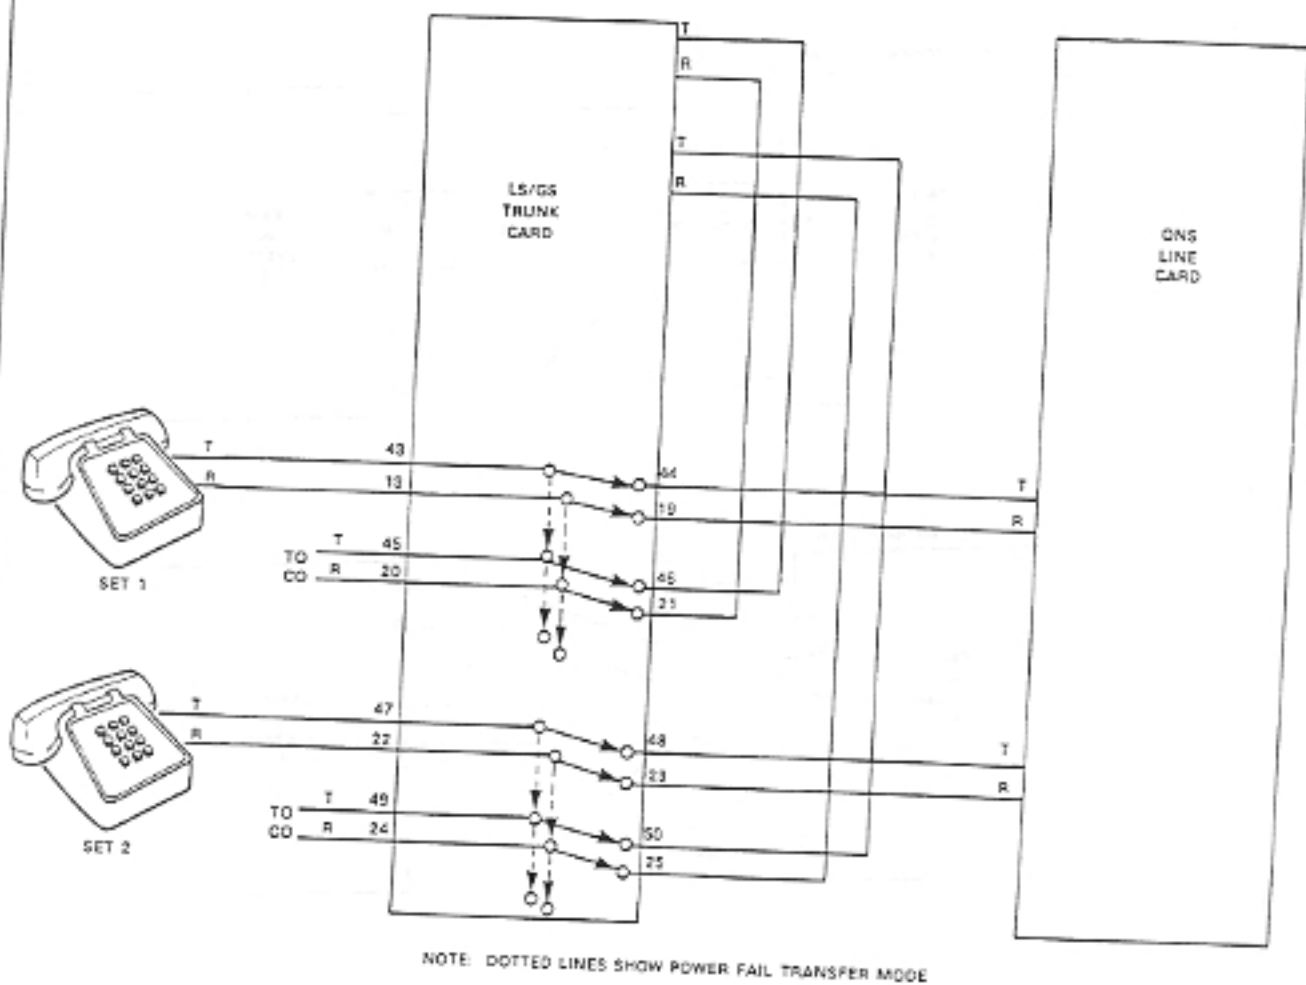

Figure 6-2 Power Fail Transfer Connections
- 6.06 The "cut-through" relays provided can connect Central Office trunks (two trunks per LS/GS Trunk Card) to selected station lines (refer to Figure 6-2, Power Fail Transfer Connections). The sets must be compatible with the ONS Line Card and the trunk. (Note: DTMF sets can be used only if the trunks accept DTMF dialing). The relays operate under the following conditions:
- ** Pins 43, 18 are the first lead designations for the Power Fail Transfer circuits (2 per LS/GS Trunk Card). Refer to Figure 6-2, Power Fail Transfer Connections for details.